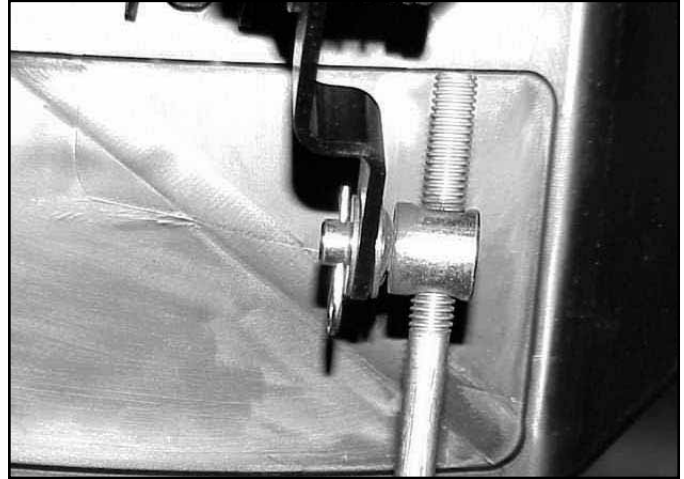

Fig 039
1. The adjustment point is a trunion on the upper end of the shift rod (Fig. 039).